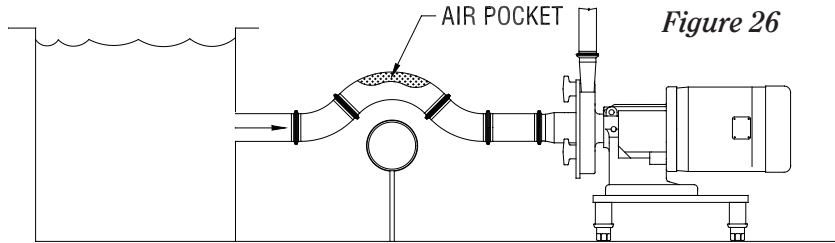

Figure 26
- Avoid the formation of air pockets in the piping (Figure 26).